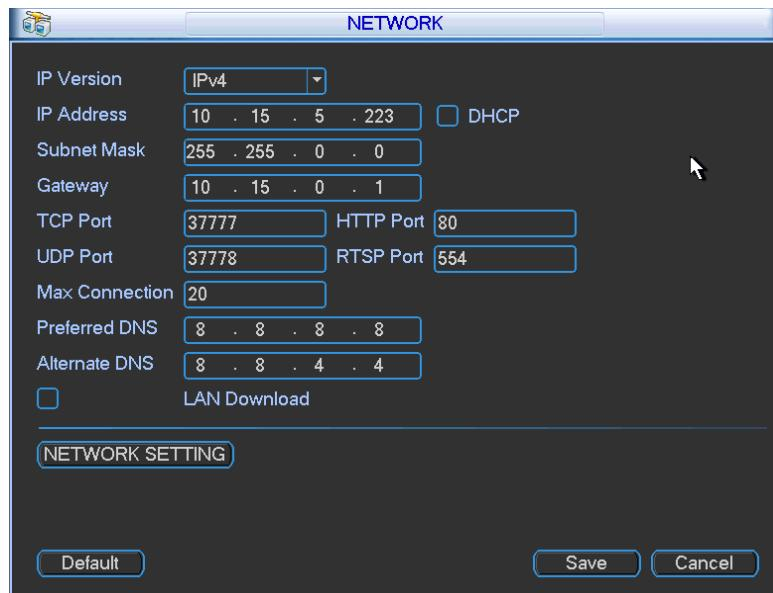
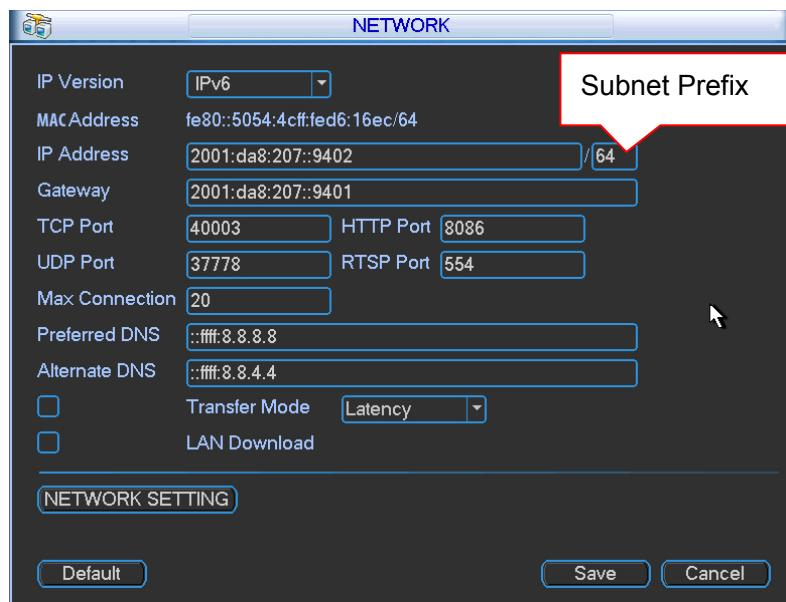

Figure 2-20
Figure 2-21
- IP Version: There are two options: IPv4 (Figure 2-20) and IPv6 (Figure 2-21). Right now, system supports these two IP address format and you can access via them.